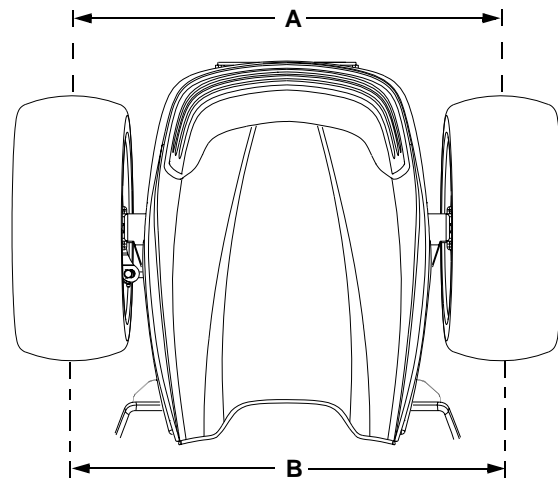

Figure 29
- Measure and record the distance 'A' between the two marks. See Figure 29.
- Roll the tractor forward or rearward until the marks are at the horizontal center line at the rear of the wheels. Measure and record the distance 'B' between the marks. See Figure 29.